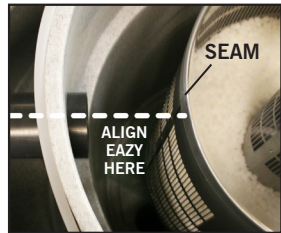
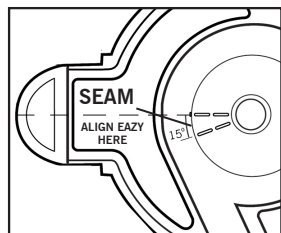

Fig. 3
Fig. 4
13. Twist the EAZY into position so that the centre seam with rivets lines up with the centre of the overflow pipe (Fig.3). (If you do not have the overflow pipe line seam up in line with centre of outlet) (Fig.4).